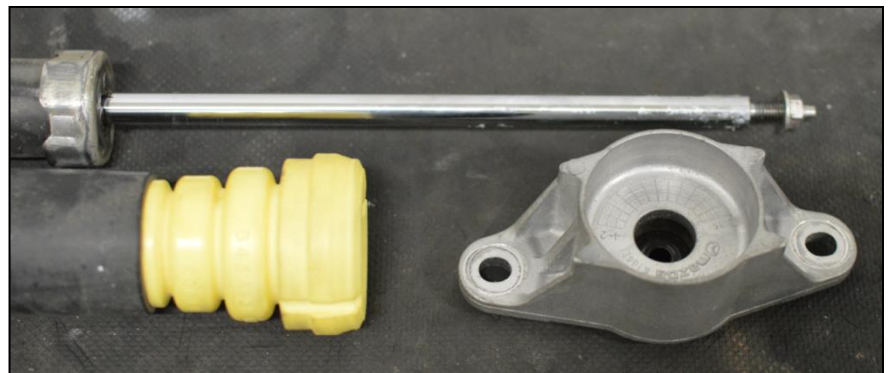

Figure 5b
- b) Remove the OE dust boot and bump stop from the OE top hat as shown in **Figure 5b**.